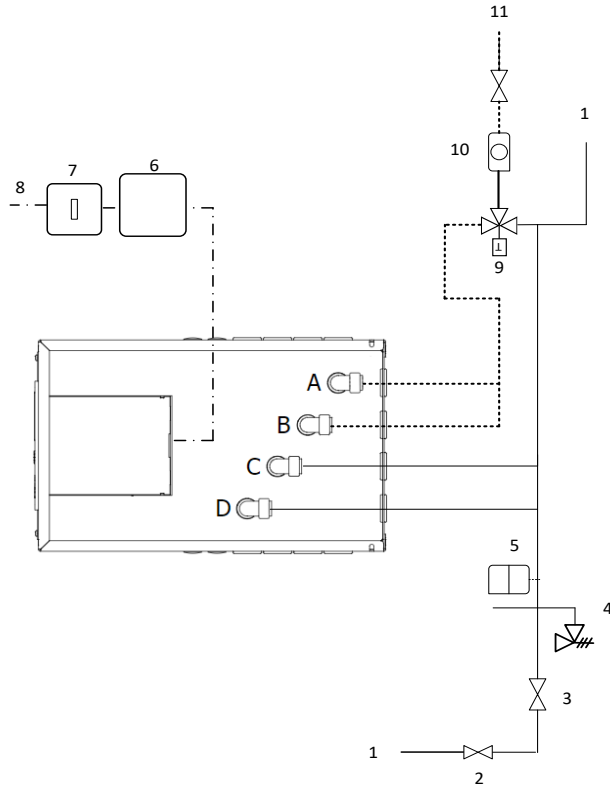

Figure 13.1: **UniQ eHW 12 +iPV** schematic (see Figure 3a for piping and electrical options available)
- Run and connect 4 Core mains power supply cable (16A, minimum 2.5mm2 CSA) from the Solar Power Diverter to the Heat Battery. (Figures 13.1, 13.2, 13.3 & Section 3.9).
Table 13.2: Explanation of components for Figure 13.1 and 13.2.